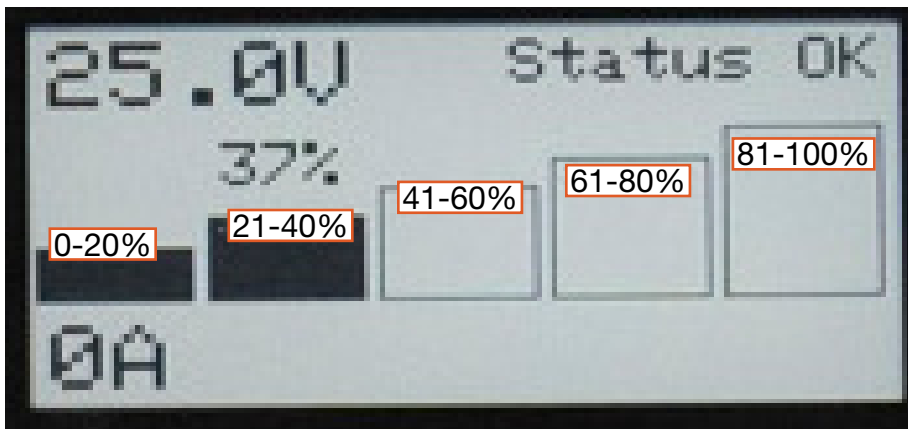
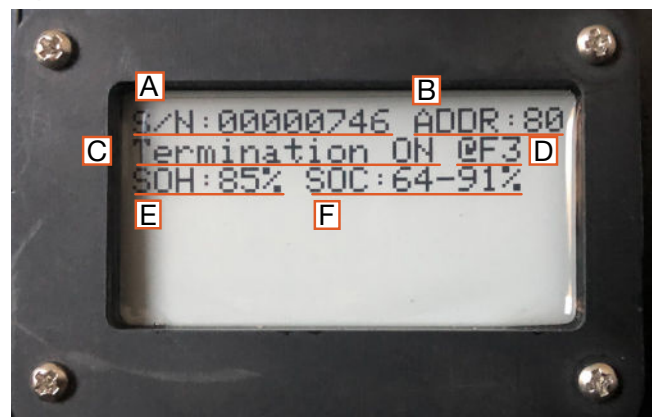

Figure 8. Battery Status Indicator SOC 5-segment report
Figure 18. Battery Status Indicator diagnostic screen
The BMS State of Charge (SOC) algorithm is based on a combination of open-circuit cell voltages, coulomb counting, and other cell-level telemetry. The algorithm computes and reports SOC for the entire battery on the Battery Status Indicator in five (5) segments or bars that fill / empty as the ESM charges / discharges respectively. The SOC reported in Figure 8 is somewhere between 61% and 80%. When the battery is charged to 81%, the fifth bar will fill completely. A numerical SOC report can be found on the diagnostic screen (see Figure 18 on page 24).
Figure 18 is an example of the information on the diagnostic screen that is present when the ESM 2700 is operating normally. The SOC value range will narrow as the battery cycles.